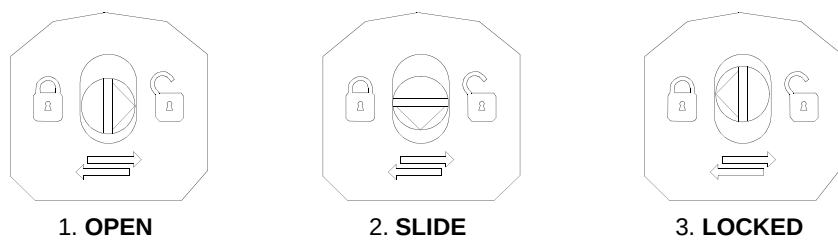

Figure 8. Baseplate Locking Device
Mounting the units onto the DIN-rail only requires a blade screwdriver that fits securely into the baseplate locking screw (1 mm slot). For further details on mounting procedure, see Figure 8 on page 51.
3. Rotate the locking device to the **SLIDE** position (2) on the unit baseplate, see Figure 8 on page 51.